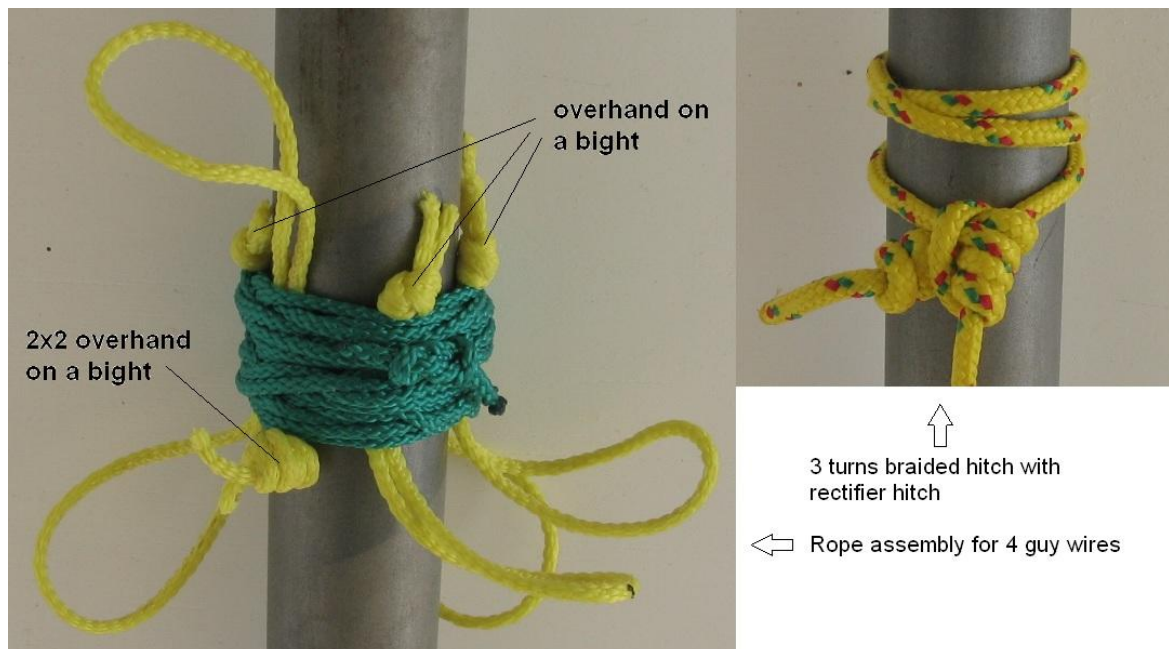

Figure 8.3, Rope only guy wire assembly for fiberglass pole
- 5 stopper knots on a bight, forming 5 loops. 4 are facing down, one facing up as shown in figure 8.3, left side
As you don't have to move the hitch when the pole is erected, a 3 turns braided hitch with a rectifier hitch has my preference (right photo in figure 8.3). You can give the